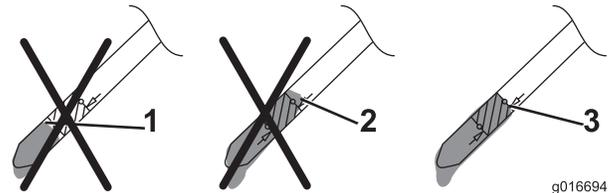

Figure 13
5. Read the oil level on the dipstick (Figure 13).
- If the oil level is too low, **slowly** pour a small amount of oil into the oil-fill tube, wait 3 minutes, and repeat steps 3 through 5 until the oil level is correct as shown in Figure 13.